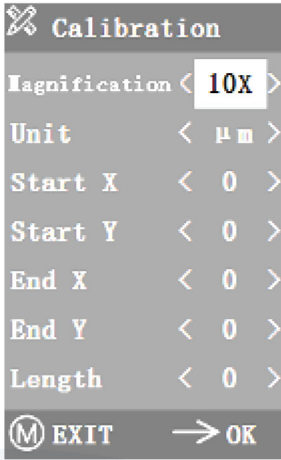

Figure 5-7
2. After entering the Calibration menu, as shown in Figure 5-7 adjust the positions of the starting and ending points of calibration to make the calibration line coincide with the micrometer scale and try to select the length containing as many scales as possible, so as to make the measurement more accurate